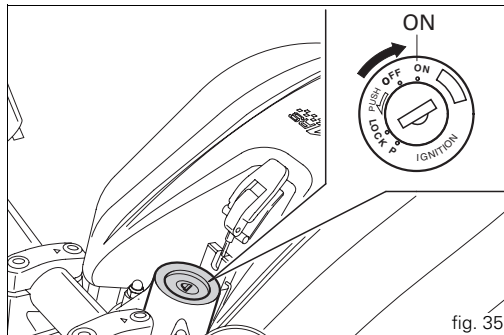

fig. 35
1) Turn the ignition key to **ON** (fig. 35). Check that both the green light **N** and the red light  on the instrument panel come on.